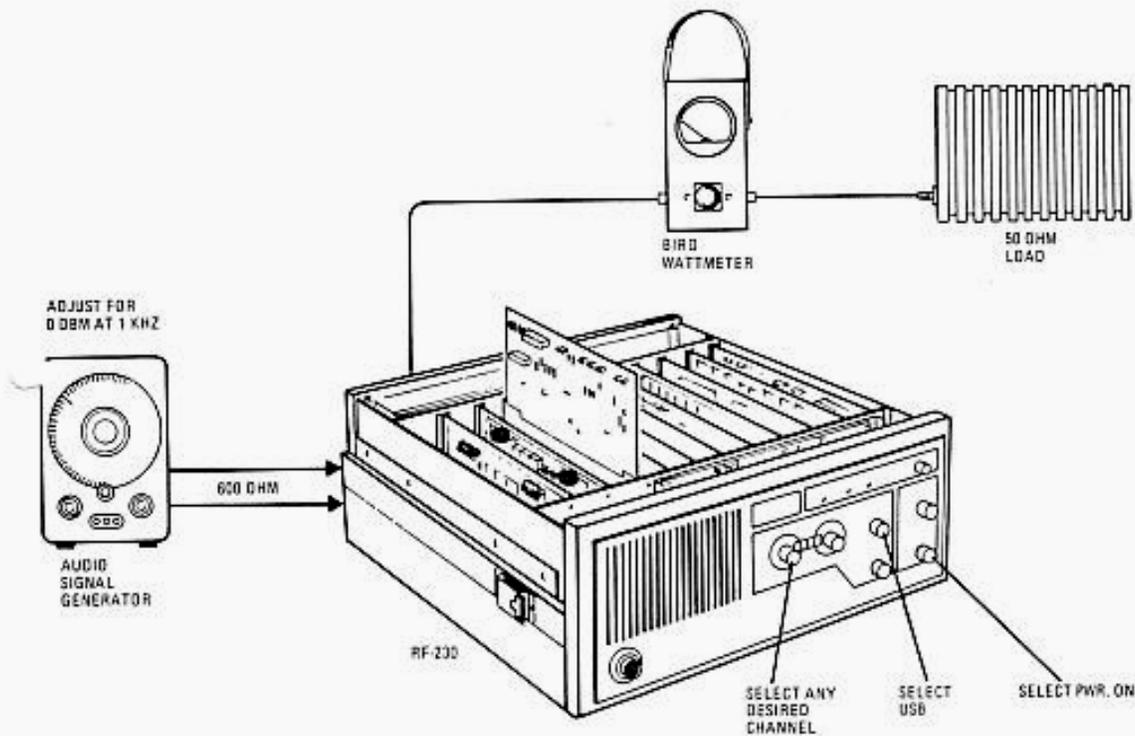

Figure 3. ALC High/Low Test Setup
- Configure for test as shown in figure 3, and reposition R90 to full cw (low power) position.